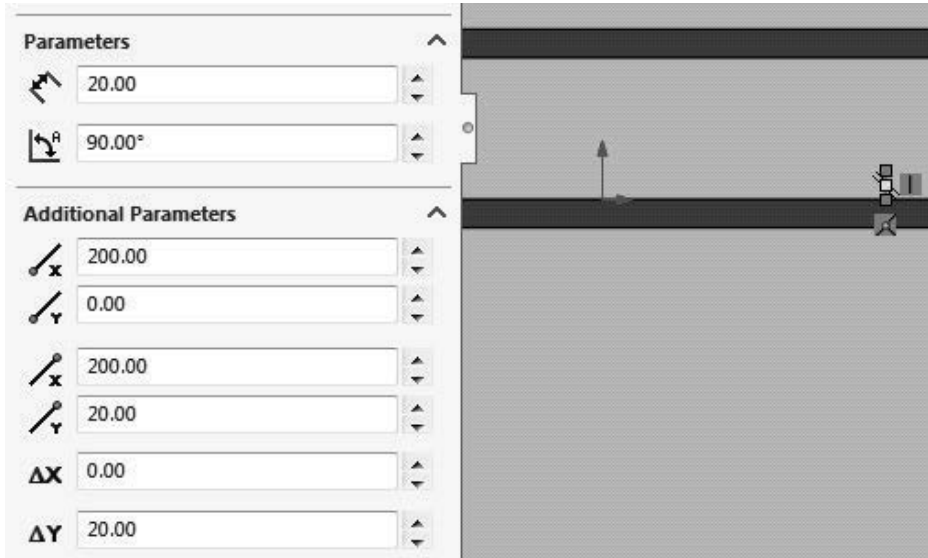

Figure 2.7 Parameters for vertical line
7. Draw a vertical line in the Y-direction in the front plane starting at the lower inner surface of the sketch. Set the **Parameters** and **Additional Parameters** to the values shown in figure 2.7. Close the **Line Properties** dialog ☒ and the **Inert Line** dialog.